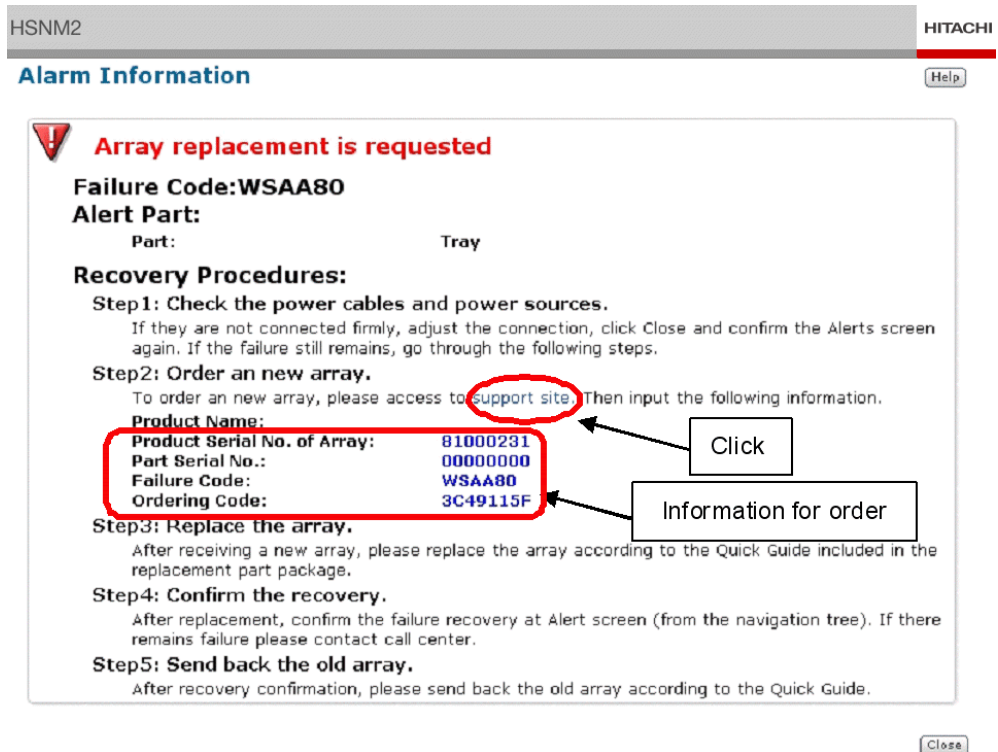

Figure 8-5: Example of an Alarm Information Window
- If an entry appears in the failure parts list window, click **Show Details** in the lower right corner of the screen for detailed information (see Figure 8-5). To remove the information, click **Close**.